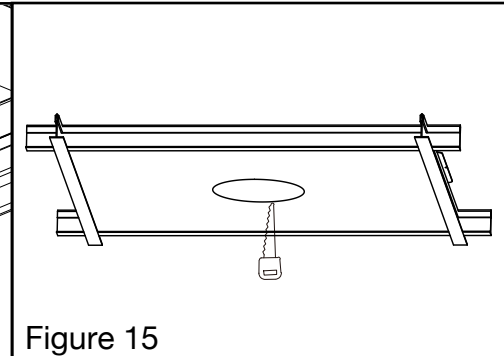

Figure 15
4. Make hole in drywall the same size as needed for fixture. (Fig.15)